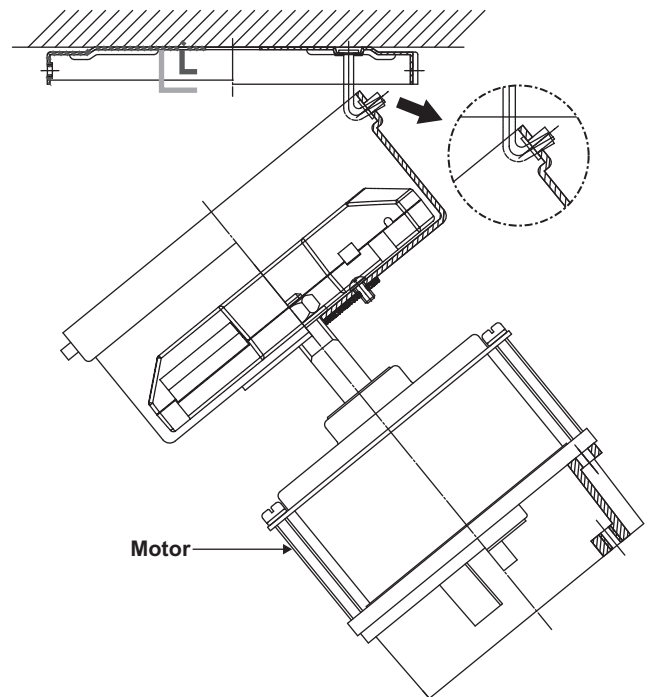

Figure 2
Step 3. Lift fan into position by hanging the motor assembly onto the hook from the mounting bracket allowing it to hang freely (Fig. 2).